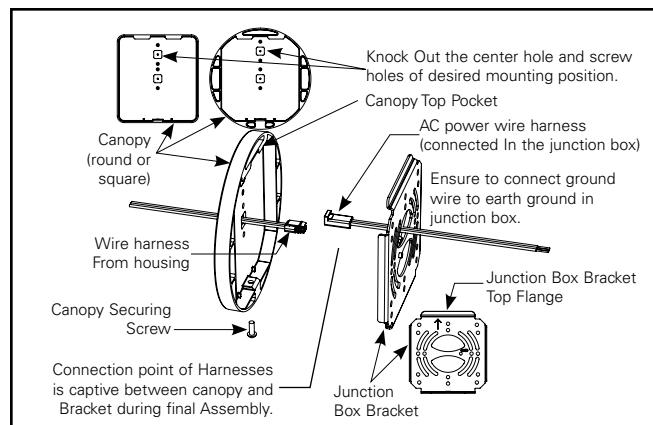

Figure 1.
4. Pass the connector end of the AC Power Wire Harness through one of the center slots of the Junction Box Bracket so that it will be accessible when the fixture is mounted (See Figure 1).
7. Retrieve the canopy and identify the mounting location you intend to use. Remove the center hole and adjacent screw hole knockouts for the desired position (See Figures 1 and 4). **THIS IS A NON-REVERSIBLE PROCESS** so take care to confirm your selection. If the unit is to be ceiling mounted, the centrally located set of holes is advised for aesthetic reasons.